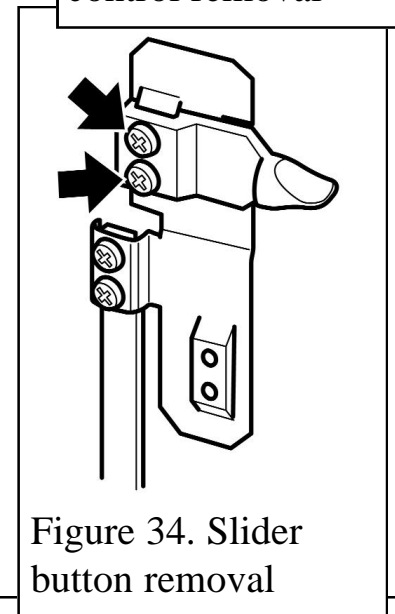

Figure 34. Slider button removal
3. Detach the control slide button from the extension bracket by removing two screws (See figure 34).